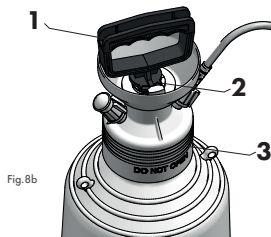

Fig. 8b
Remove the pump from the head - to do this, lock the piston rod (fig. 8b/pos. 1) in the cylinder brackets (fig. 8b/pos. 2). Unscrew the pump counterclockwise, holding the piston rod (fig. 8b/pos. 1).
Screw the pump off the head - to do this, lock the piston rod (fig. 8b/pos. 1) in the cylinder brackets (fig. 8b/pos. 2). Unscrew the pump counterclockwise, holding the piston rod (fig. 8b/pos. 1).